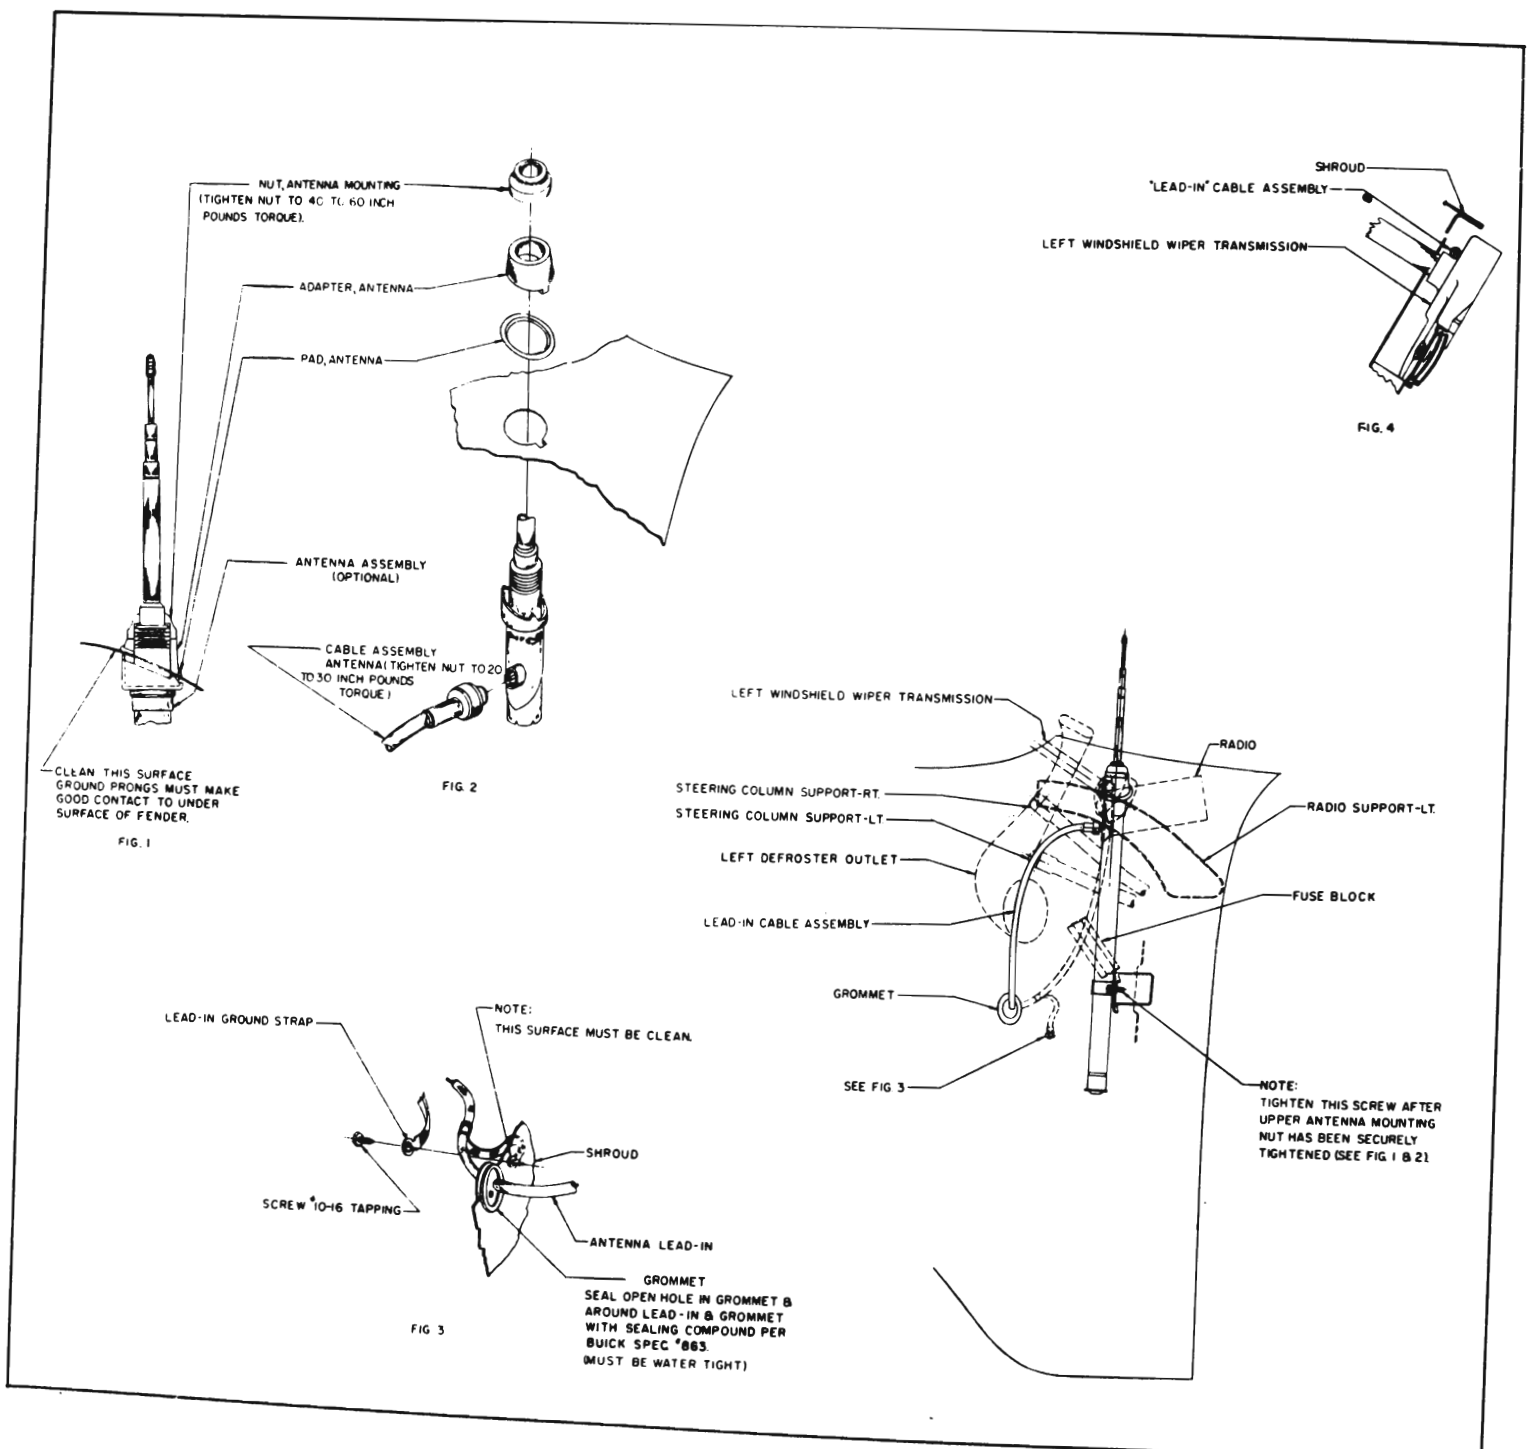

Figure 11-4—Manual Antenna Installation Details
two degrees inward from vertical. Tighten support and clamp securely. See figure 11-4.
9. Attach cable ground lead to cowl at hole provided. Be sure to clean paint from cowl surface at this point, then attach the lead terminal with a 10-16 x 1/2" tapping screw. See figure 11-4.